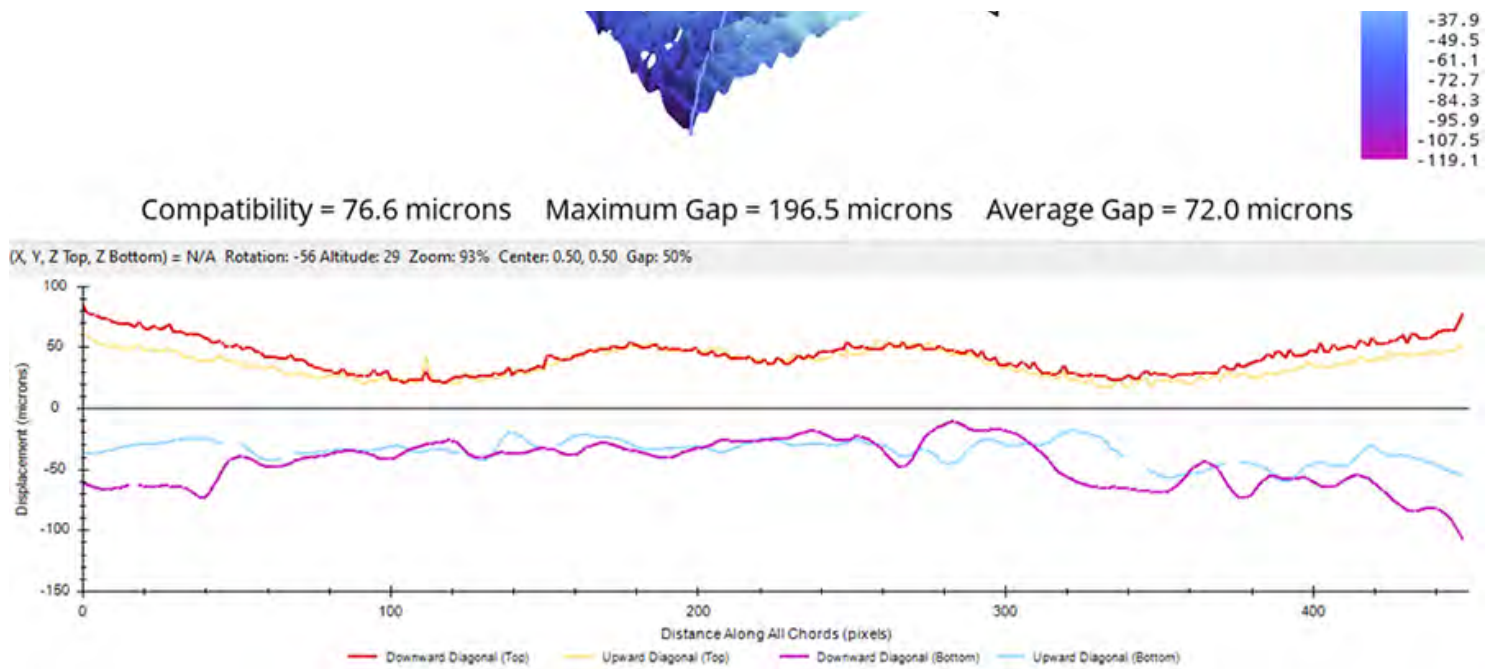

Figure 11. Room temperature interface analysis between larger BGA 4 and PCB 1 – ROI 2.
**TABLE 3** shows the maximum gap in microns at room temperature of the four larger BGAs interfaced with PCB1 and PCB2 at ROI 2, considering every possible combination. **FIGURE 11** shows one example interface graphically.